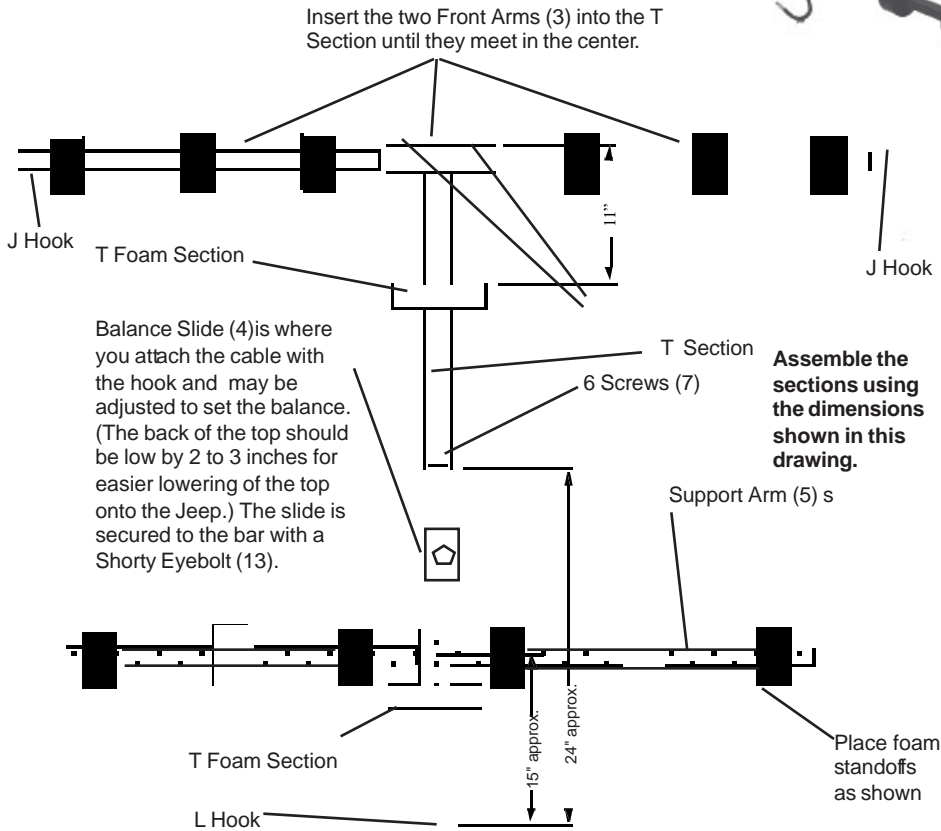
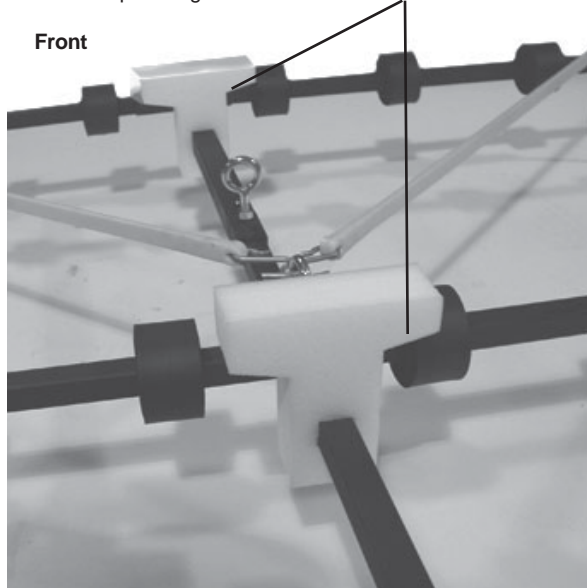

Figure 5, General Assembly Overview of Hoist Frame
Figure 6 Foam "T" Installation
Layout the parts on the floor as shown in Figure 5 and proceed with the following steps in order.
Slide Foam Protectors (12) on each of the Frame Arms (3) and on the Top Section Support Arms (5) as shown in Figure 5. Use soapy water to ease the installation of these foam parts and orient each as shown in Figure 5.
Install the front "T" Shaped Foam Standoff (16) as shown in Figure 6 and locate as in Figure 5. Be careful to orient the parts as shown, they are not symmetrical and must be installed correctly. The Foam "T" installed on the Hoist Frame T Section (1) is a tight fit and must be forced onto the bar or use a sharp knife and trim.
Install Arms (3), Balance Slide (4) Center Frame Arm (4), Top Section Support (5) into the Hoist Frame T (2) following the dimensions as shown in Figure 5. Use the six Screws (7) to secure the frame arms to the T Frame. Do not overtighten and strip the threads. Secure the Top Section Support Arm (5) with a Shorty Eye Bolt. Tighten the eyebolt after aligning the
part from the measurements shown in Figure 5. Install the rear Foam "T" Standoff (16) and orient as in Figure 6. Slip the Balance Slide (4) into place as shown in Figure 5 and tighten with the second Shorty Eye bolt. This Slide will be adjusted when you balance the top in a future operation.
Now, install the J Hooks (10) to the front arms with the eye nuts and rings as shown in the sidebar in Figure 5. Install the L Hook (11) with the Nyloc Nut (9) to the rear bar,
Make sure the hoist is set to *lift*. See instructions in the Cable Puller Box for lifting and lowering settings for the wire cable puller. Lift your top off slowly a few inches. Use one hand on the side to balance the top until it clears the vehicle body. Make sure the top balances so that it remains fairly level when in the stored position (Hanging slightly lower at the back will aid in installation). To change the balance, move the Balance Slide, see Figure 5 (either to the front of the jeep to lower the rear or to the rear of the jeep to lower the front). **Make sure you replace the top back on the vehicle before moving the slide.** When the balance point is found, tighten the eyebolt until it presses hard into the rear support bar, then tighten the safety lock nut to additionally secure the eyebolt. Lift your top slowly a few inches and recheck everything.